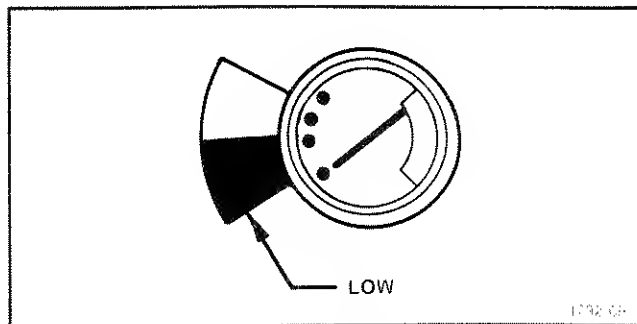

Fig. 5-16. Alignment of Battery Meter.
2. Install Meter in Front Panel with markings aligned as shown in Fig. 5-16.